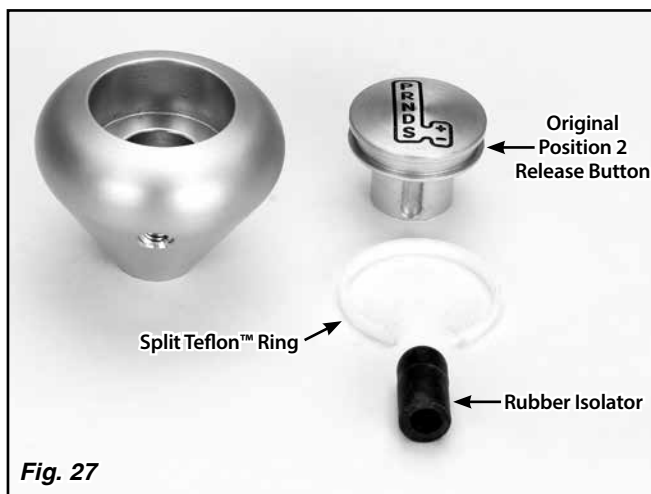

Fig. 27
Step 12: Remove the split Teflon™ ring from the release button. Use a pair of needle nose pliers to remove the rubber isolator from inside the release button. **Fig. 27** Install the rubber isolator into the new Position 1 release button, making sure the closed end of the rubber isolator goes into the button first.